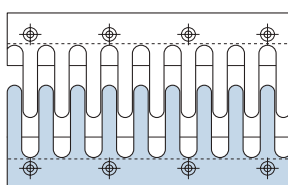

Fig.1
- WP joints are manufactured to order and can be adapted to the directional movement of the main structure, straight (fig.1) or skew (fig.2)